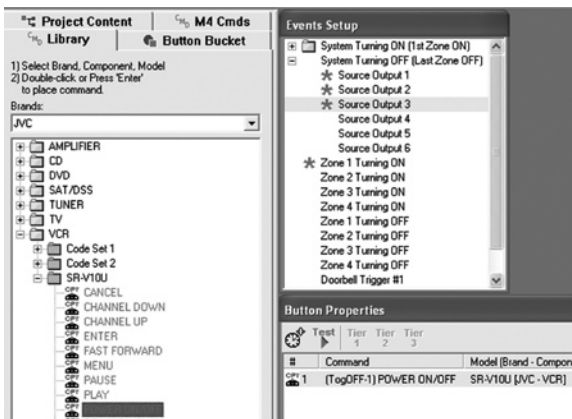

Figure 42 Placing Commands on Source Outputs For System OFF
4. Double-click an **IR command** from the **CMD Library** for a typical source, such as **Power OFF** for for a CD2, placing it on the **Command** list. Refer to **Figure 42**.